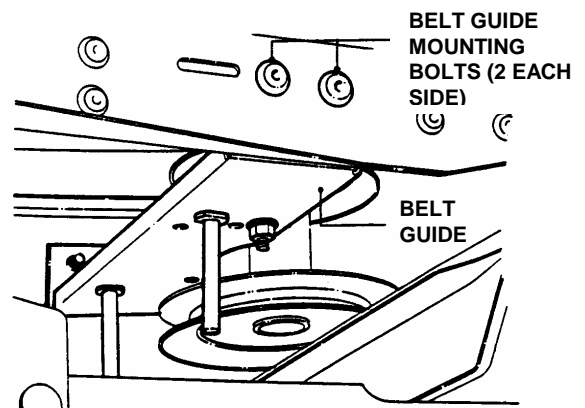

FIGURE 4.26
1. Remove two belt guide mounting bolts from each side of tractor frame. See Figure 4.26.